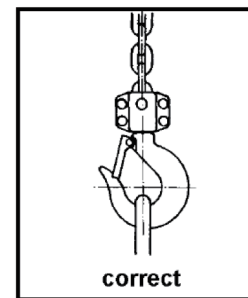

FIG 4
- Correctly center the load on the bottom hook (FIG 4). Incorrect loading is dangerous to the operator, the lever hoist, and the load.